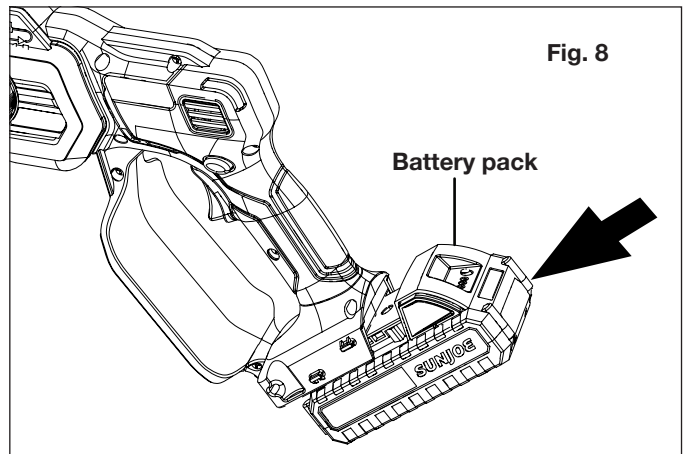

Fig. 8
2. Insert the battery in the battery compartment. Push to make sure it is locked in place (Fig. 8).